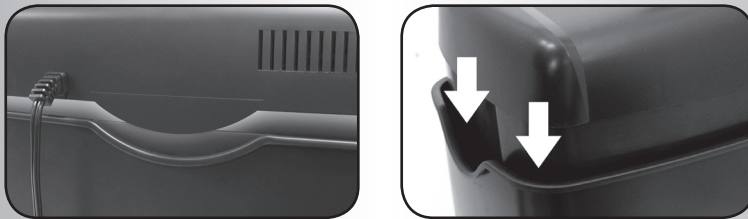

FIGURE 1
1. This model includes a built-in safety interlock mechanism, which requires the shredder to be correctly mounted on to the included wastebasket. Located on the back center of the shredder, next to the power cord, there is a curved flap-like shape that must **FIT OVER THE OUTSIDE** matching ridge of the wastebasket. (FIGURE 1) **THE SHREDDER WILL NOT OPERATE UNLESS IT IS PROPERLY MOUNTED AS PICTURED.**